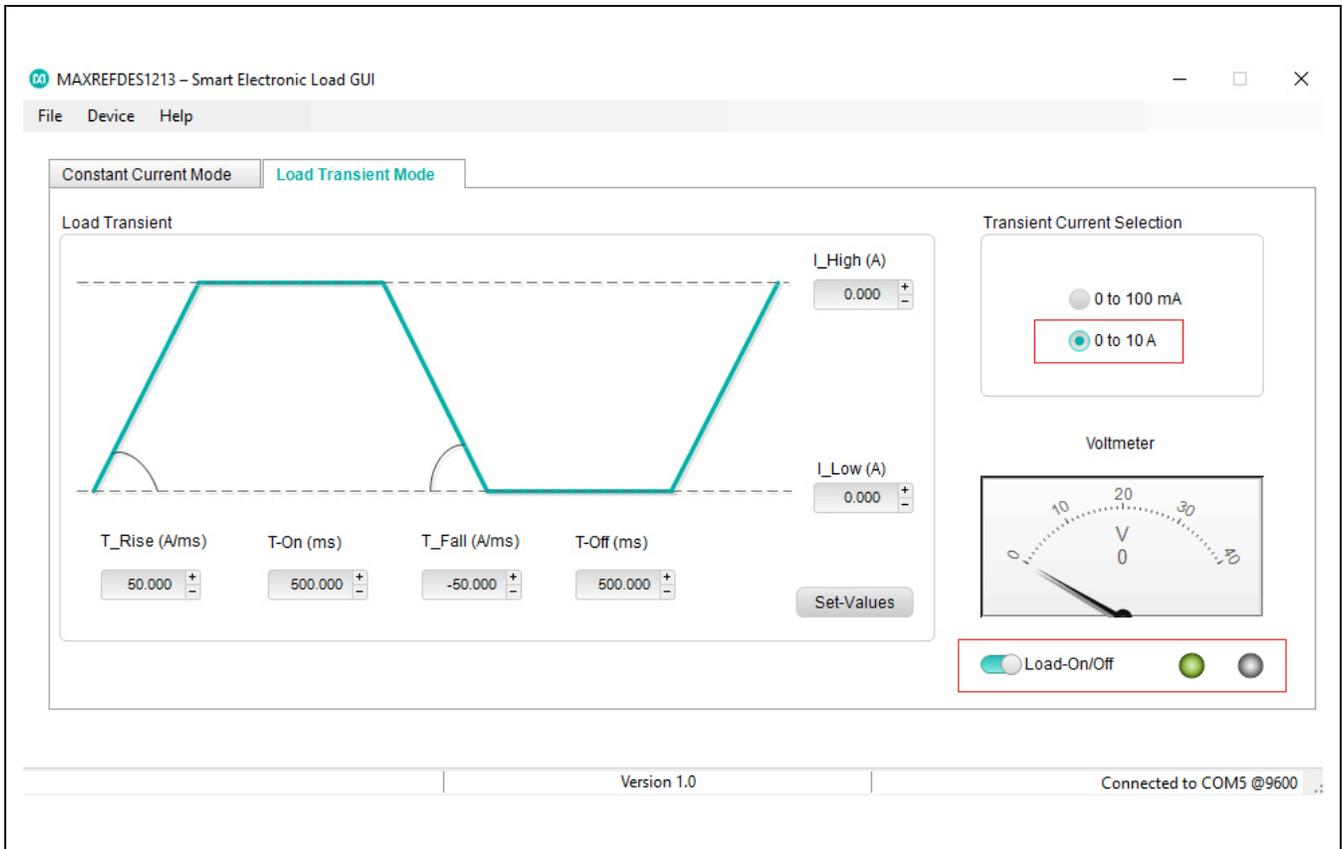

Figure 10. Load Transient Mode tab with load turned on.
- **Set-Values:** This button allows the user to load the values into the E-load. Make sure **Load-On/Off** is turned on before setting the current values as shown in Figure 10.